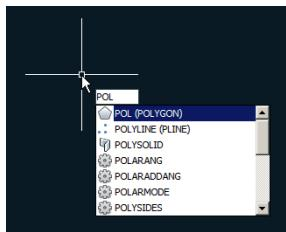

FIGURE 1.15 Command line's AutoComplete feature
11. Type **POL**, and observe how the AutoComplete feature highlights commands in alphabetical order as you type (see Figure 1.15). Use the arrow keys to move up or down through the list, and press Enter when you find the command for which you are looking, or click its name in the list, instead of typing the entire word.